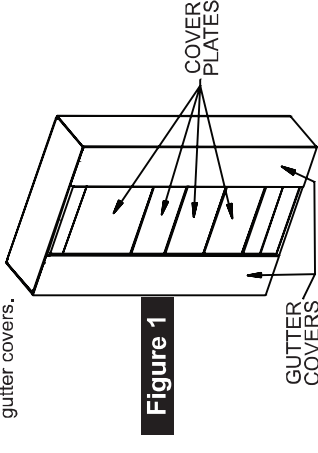

Figure 1
2. Refer to Figure 1: Remove the cover plates and gutter covers.